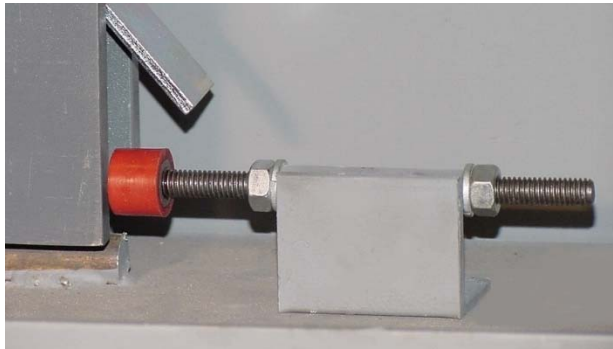

FIGURE 12
12. In the open position, the **Stop Assembly** must be placed 1/8" away with the bumper centered directly on the front bar at the rear of the travelbar assembly. The stop assembly can then be welded into position. Make certain to tighten stop assembly nuts into position. Future adjustments can be made by loosening the nuts and sliding the stop assembly forward or backward (Figure 12).